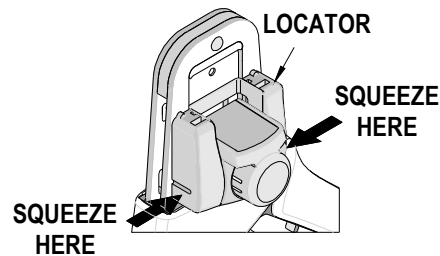

Figure 6A
3. Lift and pull away from the hand tool. The top locator hooks should slip out of the top slots easily. See Figure 6A.